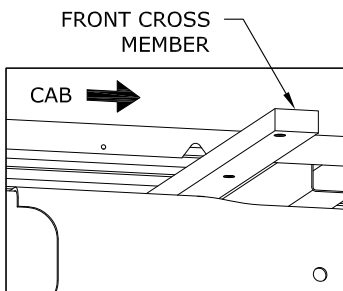
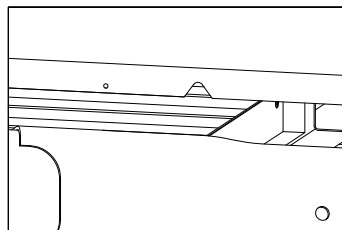
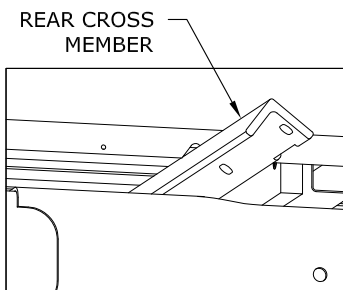
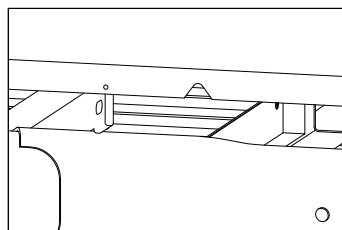

FIGURE B1
FIGURE B2
FIGURE B3
FIGURE B4
- 1. Place Cross Members.** Using the notch cut in the bed flange inside the passenger side rear wheel well, slide the cross member across the frame until it spans both frame rails, See figure B1. Rotate cross member so that the holes on the end of the cross member are closest to the floor of the bed. Push cross member forward against bed cross member, See figure B2. Using the notch for clearance install the rear cross member with the angle oriented so that the leg with the slotted holes is facing the front of the truck, See figure B3. Hold the rear cross member in an inverted V position, and push the angle across the frame. Slide the cross member toward the rear of the truck so that there is approximately 10 inches between both cross members. Then rotate the cross member so that the leg with the slotted holes is vertical, See figure B4.